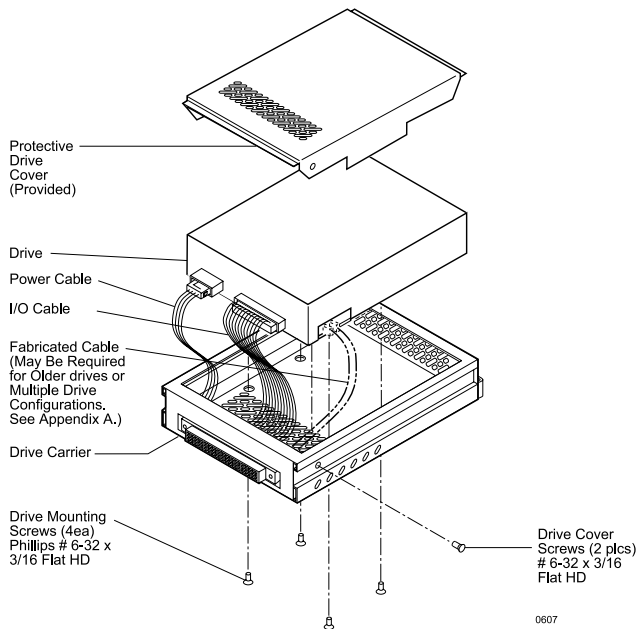

Figure 7: Drive Installation Assembly
1. Attach the I/O cable on the drive carrier circuit board to the drive. Refer to Figure 7 for an illustration of the installation process.
4. Carefully insert the drive into the drive carrier at an angle, cable-end first. **Make sure none of the cables are pinched.** Lower the front of the drive carefully into place. Fasten the drive into the carrier with four of the eight screws provided as shown in Figure 7.